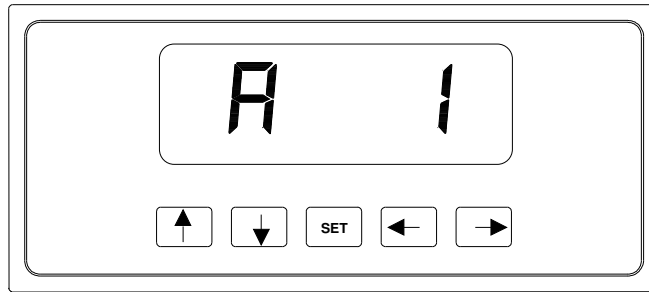
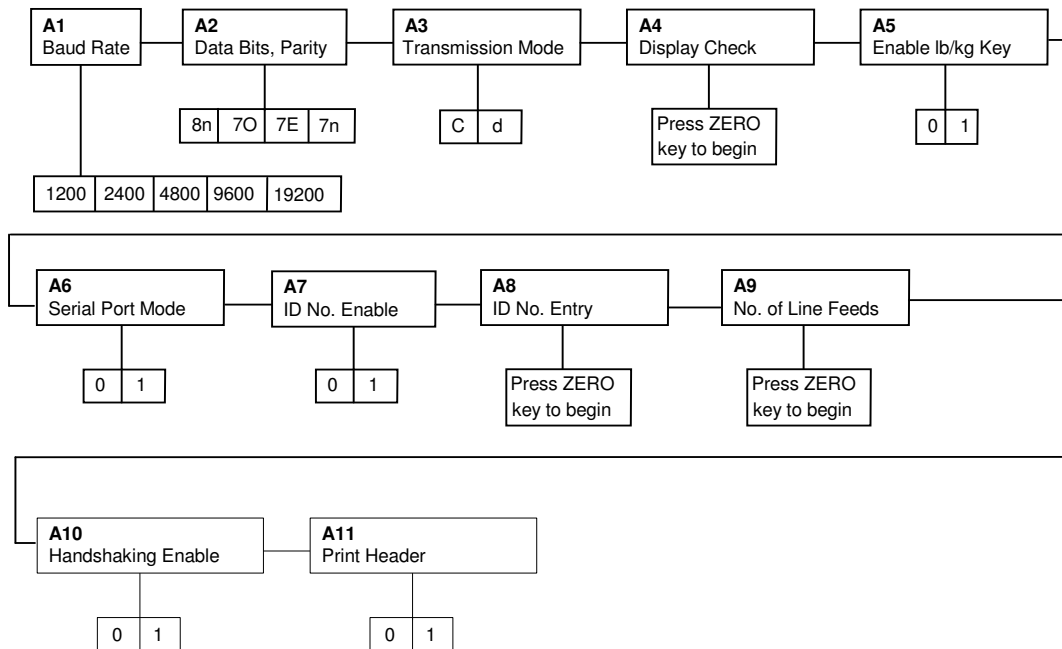

Figure 3-3: User Menu Key Assignments
Figure 3-4: User Menu Chart
2. Use the right or left directional keys shown in Figure 3-3 to move right or left in the Setup (“F”) menu until the indicator shows ” A 1”.
Use the directional keys shown in Figure 3-3 to move around in the User Menu Chart shown in Figure 3-4 on the following page.